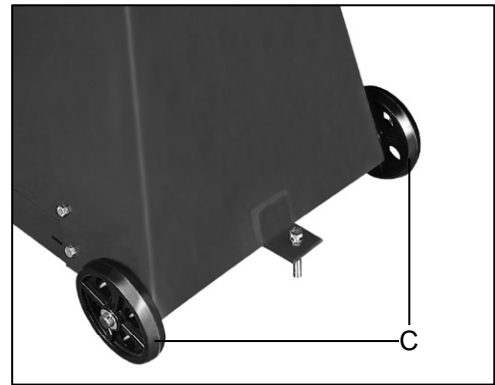

Fig. 1
3. Slide wheels (C, Fig. 1) onto axles and fasten with pins. Bend pins to hold in place.